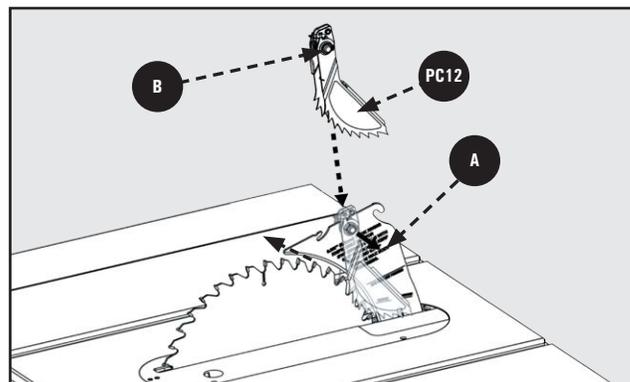

Figure 20
1. Refer to Figure 20 and locate the Anti-Kickback Pawls mounting slot in the middle of the top edge of the Riving Knife **A**.